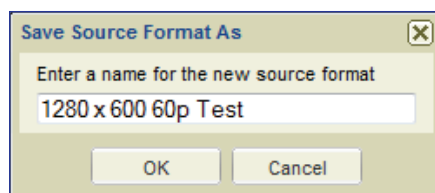

Figure 123. Saving a Source Format
17. Click **SaveAs** (④), to save the resolution.
18. In the **Save Source Format As** dialog box, enter a name for the new source format and click **OK** (see figure 123).